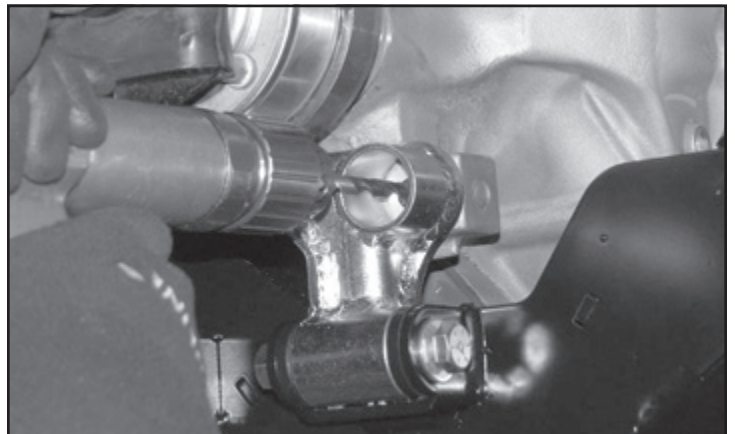

FIGURE 36 - STEP 36
36. Use the rear bracket as a drill guide to drill a $\frac{1}{2}$ " hole through the block on the rear of the diff. **SEE FIGURE 36**